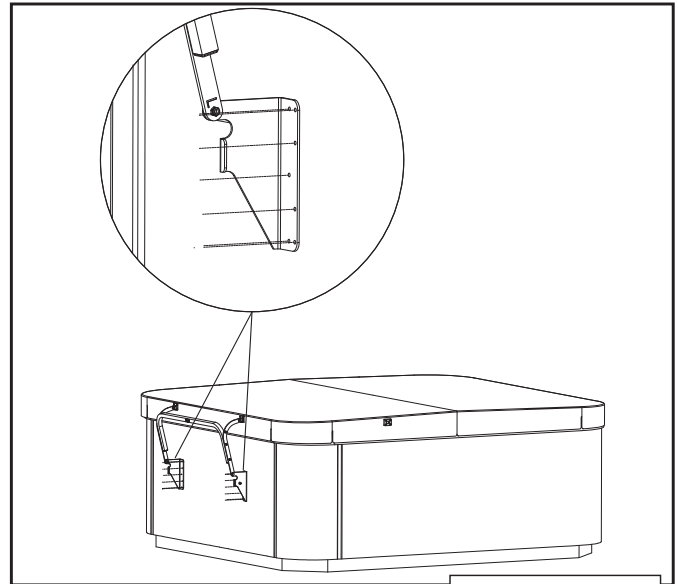

Figure 5.3
4. Using the Mounting Bracket (bottom part of the Pivot Assembly) as a template, predrill 1/8"(3mm) holes into the back of the spa (Figure 4.3) with 1/2"(12.5mm) max. depth. There are (7) holes per Mounting Bracket (Figure 5.3).